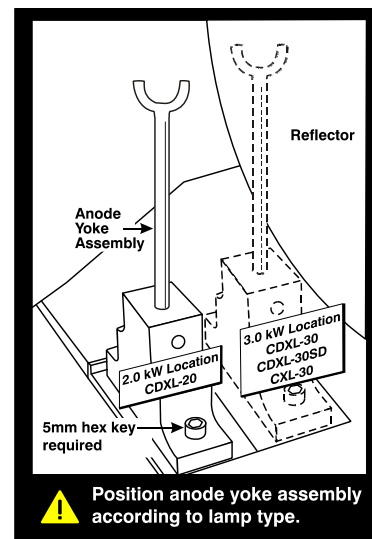

Figure 5-46 Anode Yoke
- b. If you are installing a different type of lamp from the original, ensure the correct position of the anode yoke (Figure 5-46).